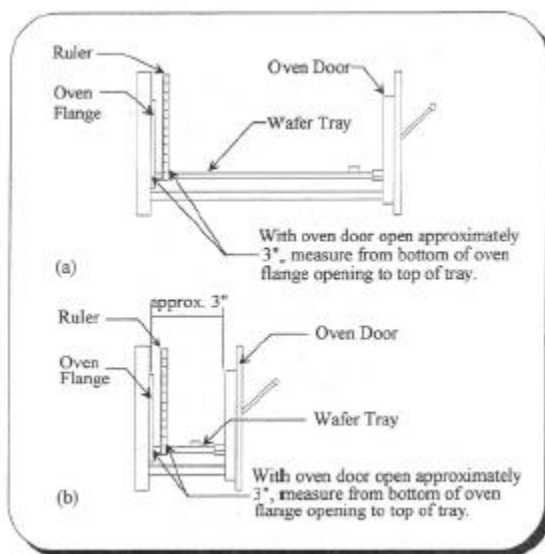
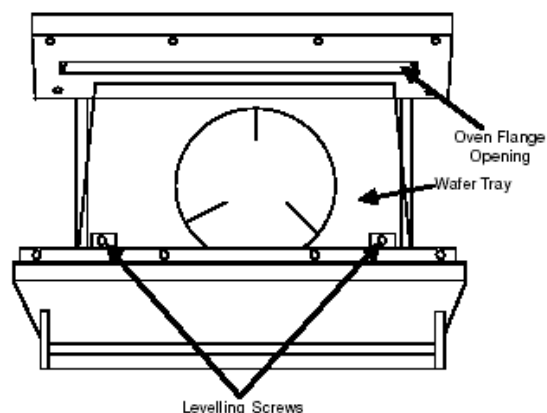

Figure 5-8. Leveling the Wafer Tray
Figure 5-9. Leveling Screw Locations (Top View)
8. In order to achieve optimum process uniformity, it is very important that the wafer tray be level with respect to the Solaris oven. Close the oven door until the edge of the tray is flush with the oven flange. See Figure 5-8 (a) and 5-9. Using a ruler, measure the distance from the bottom of the oven flange to the top edge of the wafer tray. Measure the tray on both sides to verify that it is level from side to side.
9. If the tray is level from side-to-side, go to the next step. If the tray is not level side-to-side, then adjust the tray using the leveling screws. The level of the tray should be adjusted so that the end of the tray is centered with the opening in the oven flange. See Figure 5-9 for location of oven leveling screws. Once the tray has been leveled from side to-side, note the distance from the bottom of the oven flange to the top edge of the wafer tray.
10. Close the oven door until it is open about 3 inches. See Figure 5-8 \(b\). Using a ruler, measure the distance from the bottom of the oven flange to the top edge of the wafer tray. This distance should be the same as the distance noted in step 8 or step 9 above. If it is the same, then the wafer tray is level. If it is not the same, then the tray will need to be leveled from front-to-back using the leveling screws. See Figure 5-9 for leveling screw locations.